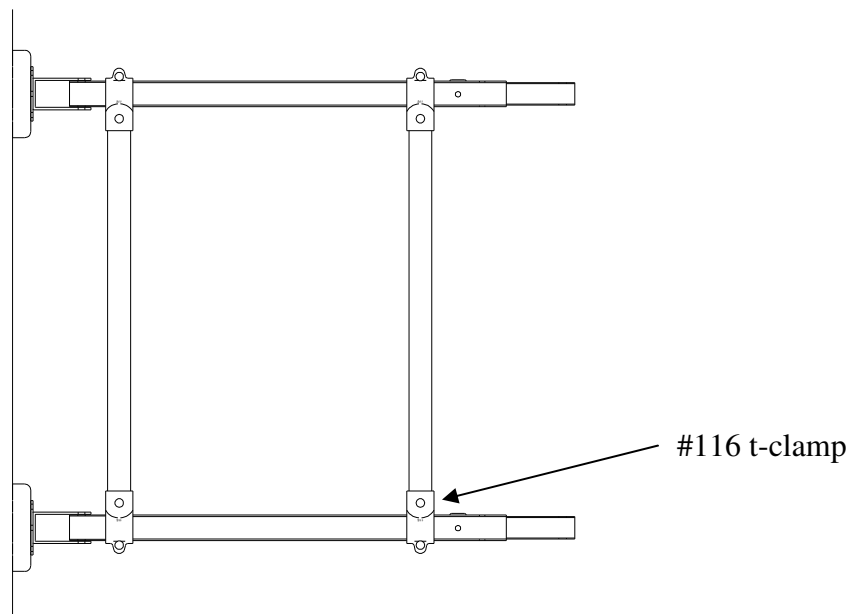

Figure 7. Bracing pipes for side fold units installed between upper and lower pipes.
- 15) To complete the installation, attach the provided bracing pipes between the upper and lower extension arm pipes with the #116 t-clamps, (see figure 7) for an illustration.